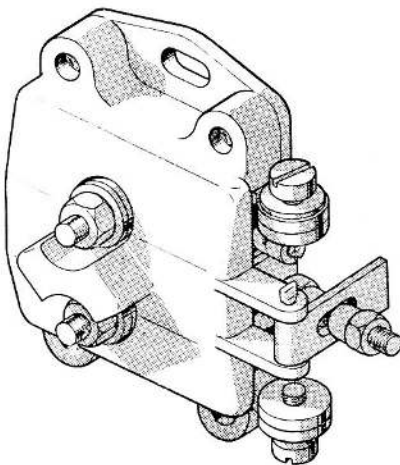

Fig. 1. Limit switch, Type LS561, Mk. 6
2. This switch (*fig. 1 and 2*) is a double-pole, snap-action, change-over type. The mechanism is contained in a black plastic case mounted on a duralumin base plate, and provided with two mounting slots.